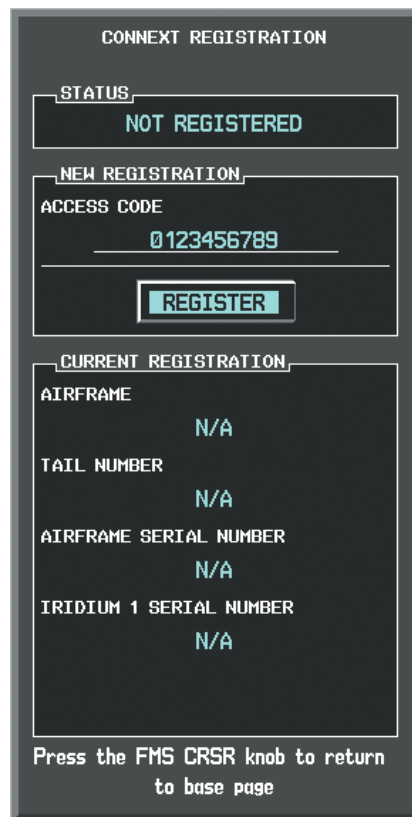

Figure 6-55 Enter Access Code
- 6) Press the **ENT** Key. The Connex Registration Window is displayed as shown in Figure 6-55.
- 8) Press the **ENT** Key. 'REGISTER' is highlighted as in Figure 6-55.